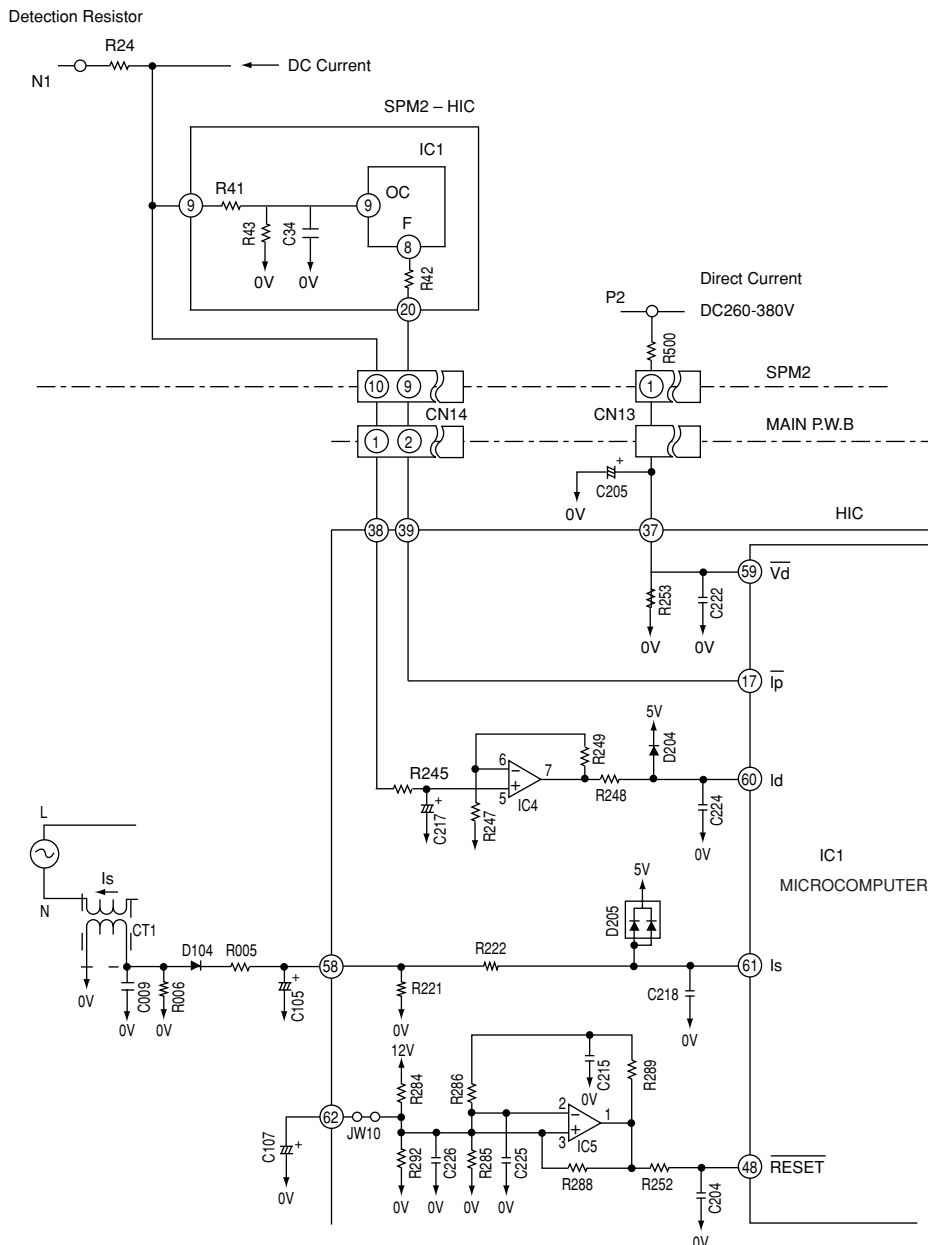
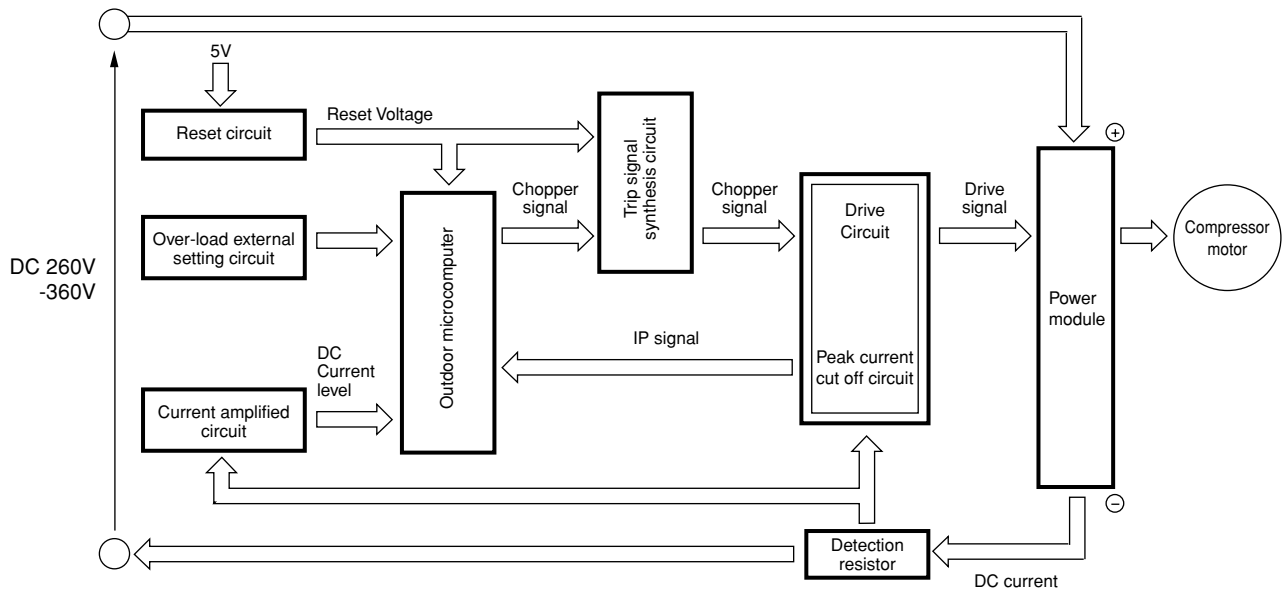

Fig. 8-1 Microcomputer and Peripheral Circuits
Fig. 8-2
- Fig. 8-1 shows the micro computer and its peripheral circuits, Table 8-1, the basic operations of each circuit block, and Fig. 8-2, the system configuration.
①. Overload external judgement circuit
- Fig. 8-1. The filter consisting of R245 and C217 removes high harmonic components from the voltage generated by the current flowing to Detection resistor; R245 and C217 average the voltage. This voltage is then input to IC4 pin ⑤ is then amplified and supplied to microcomputer pin ⑥. The microcomputer compares this input with the internally set value, and if the input exceeds the set value, it enters overload control status.